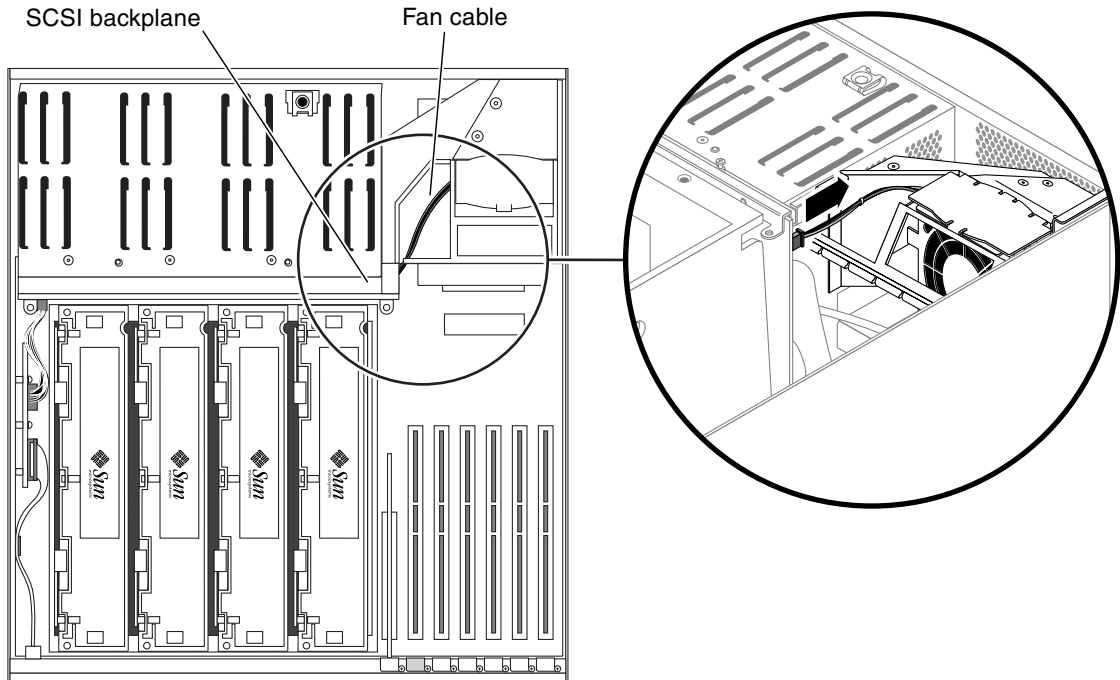

FIGURE 4-6 Disconnecting the Fan Cable from the SCSI Backplane
7. Disconnect the fan cable from the SCSI backplane (FIGURE 4-6).
11. Connect the fan cable to the SCSI backplane (FIGURE 4-6).